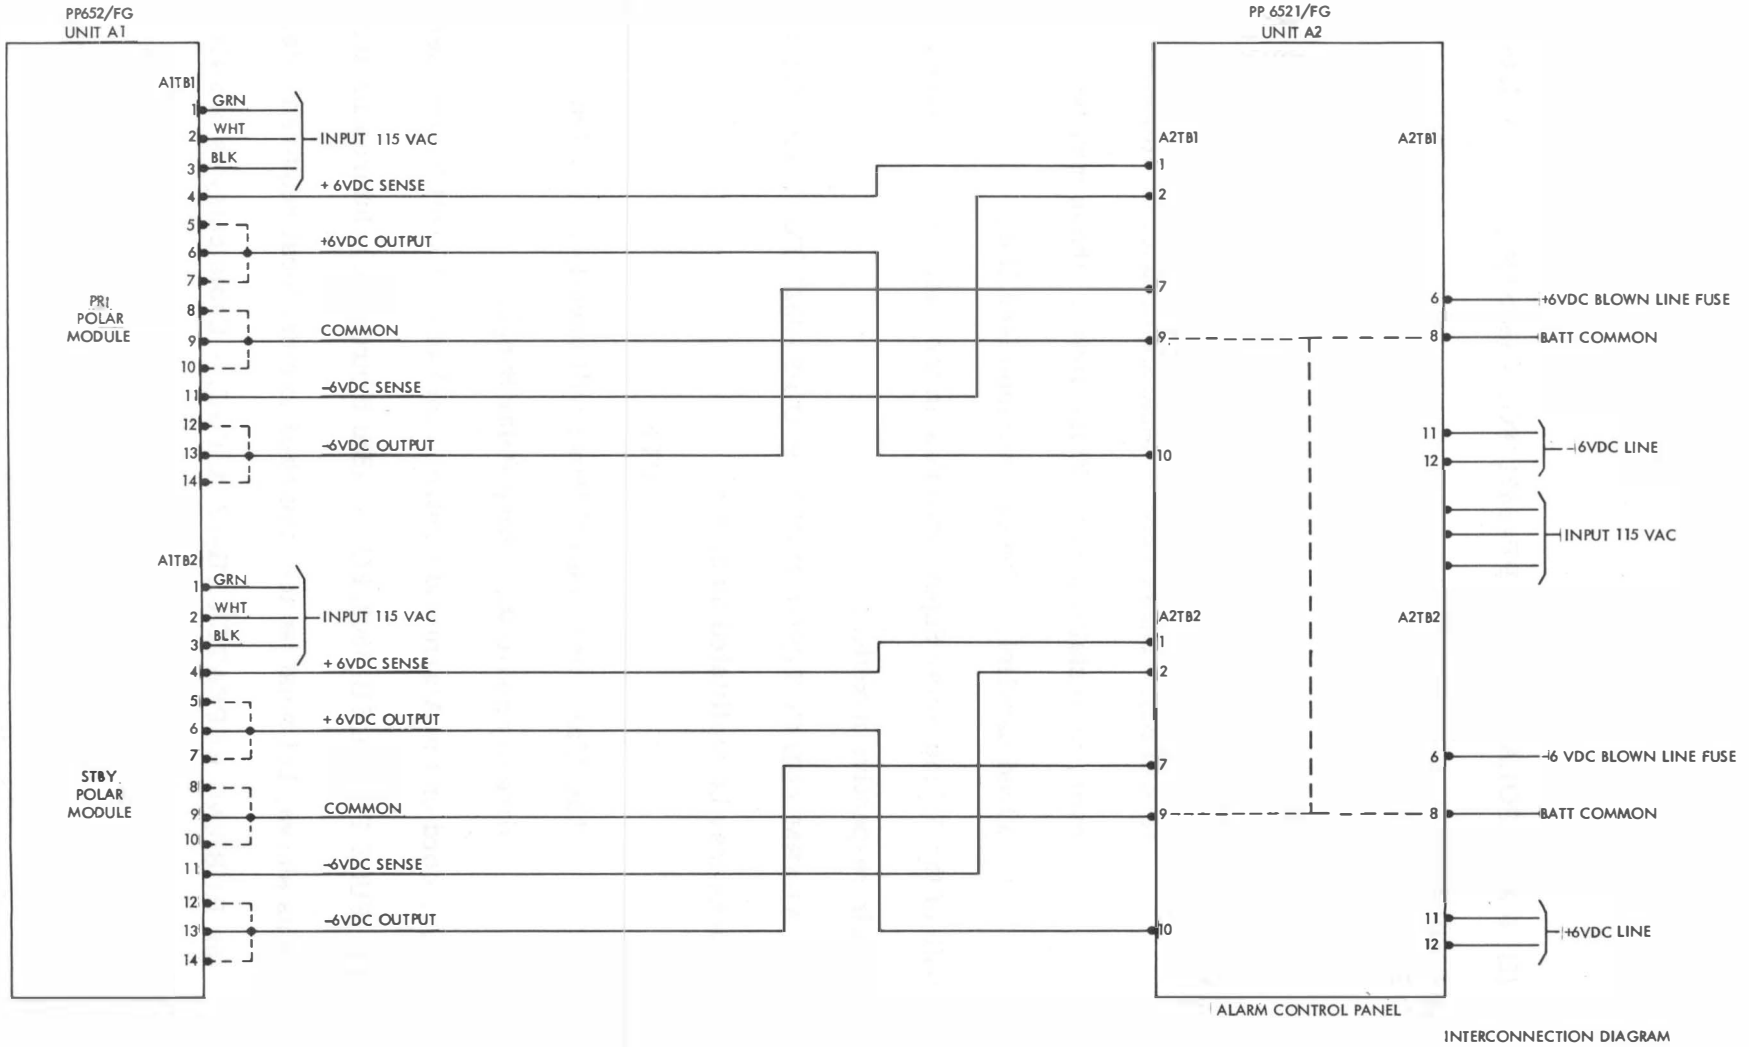

Figure 2-5. Power Supply Assembly PP-6521/FGC, Interconnection Diagram
(2) 5 AMP POLAR SUPPLY PP-6521/FG. - (See figure 2-5.) Interconnections may be facilitated as shown.
(3) ALARM AND CONTROL PANEL P/O PP-6521/FG. - (See figure 2-5.) Interconnections may be facilitated as shown.